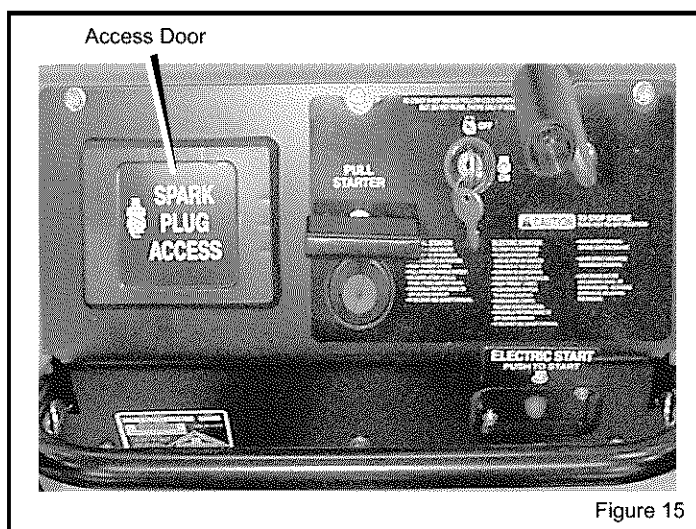

Figure 15
1. Open the spark plug **access door** on the control panel (Figure 15).